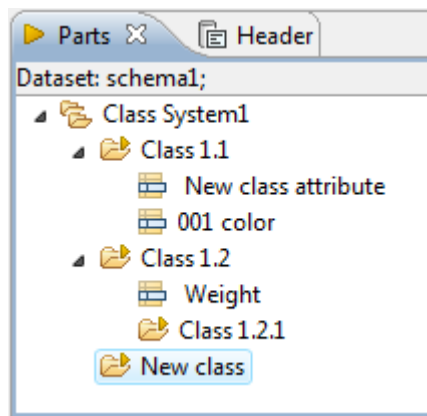

Figure 2. New classification, named 'New class' in the tree
- A new node named **New class** is created in a hierarchy (see Figure 2).